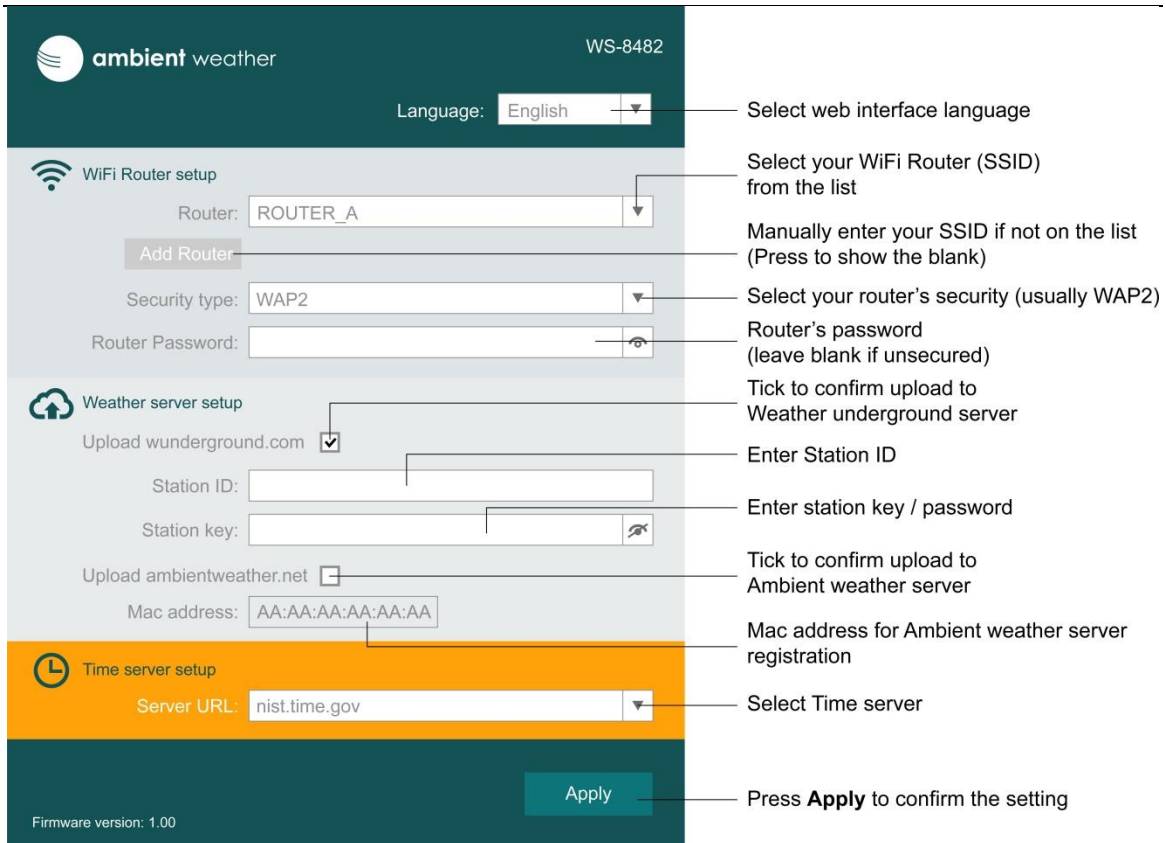

Figure 27
4. Enter the following information into the web interface (Figure 27). Make sure all of the information is entered prior to selecting Apply. If you choose not to use Wunderground.com or AmbientWeather.net, leave the check boxes unchecked.
Next, enter the MAC address found on your Weather Station Web Interface (Figure 27). Note that this is an example only and your MAC address will be different.